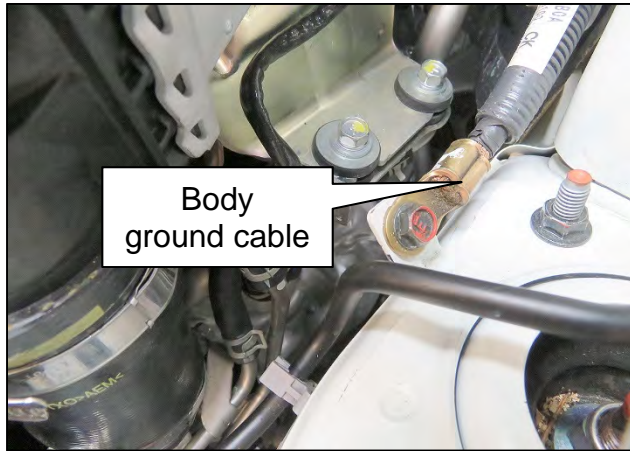
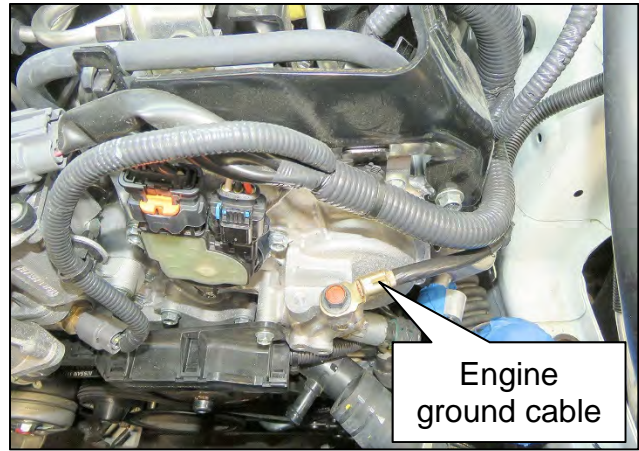

Figure 10
Figure 11
20. Detach the body ground cable (Figure 10) and the engine ground cable (Figure 11).
- The body ground cable is located on the driver (LH) side of the engine room inner fender.